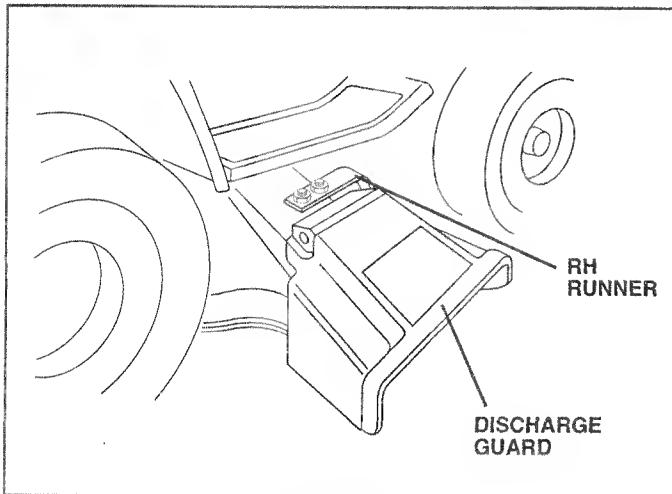

FIG. 10
TO OPERATE MOWER (See Fig. 10)
- Use the runner on the right hand side to mower as a guide. The blade cuts approximately an inch outside the runner (See Fig. 10).